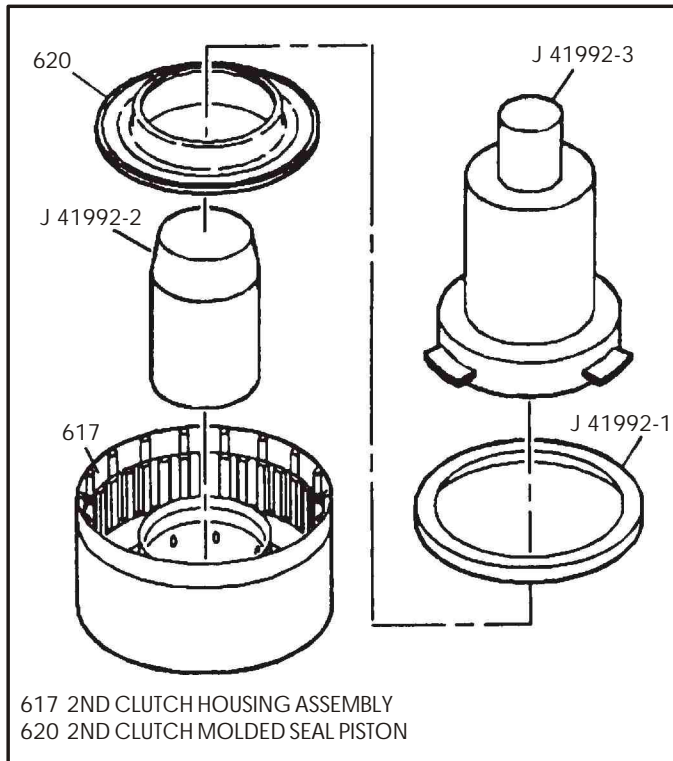

Figure 121
7. Lubricate and install the molded 2nd clutch piston into the housing using the installation tools shown in Figure 121, if necessary.